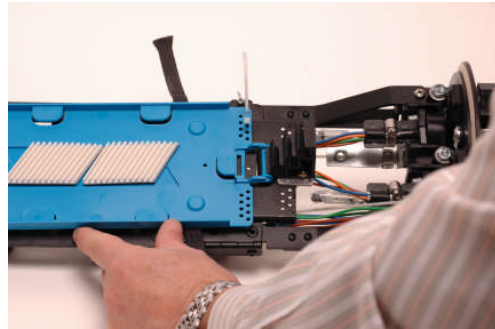

Figure 24
9.1.5 Install the required trays one at a time and secure all fiber bundles using the tie wraps supplied. The trays can be temporarily stood upright using the locking design of the Tray Stacking Module. Refer to Figure 24